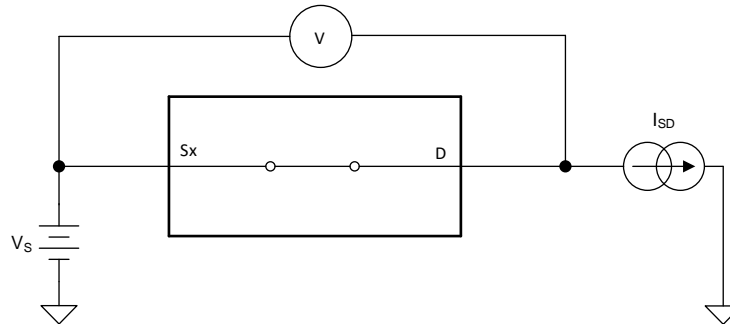

Figure 18. On-Resistance Measurement Setup
The on-resistance of a device is the ohmic resistance between the source (Sx) and drain (D) pins of the device. The on-resistance varies with input voltage and supply voltage. The symbol R_{ON} is used to denote on-resistance. The measurement setup used to measure R_{ON} is shown in Figure 18. Voltage (V) and current (I_{SD}) are measured using this setup, and R_{ON} is computed with $R_{ON} = V / I_{SD}$: